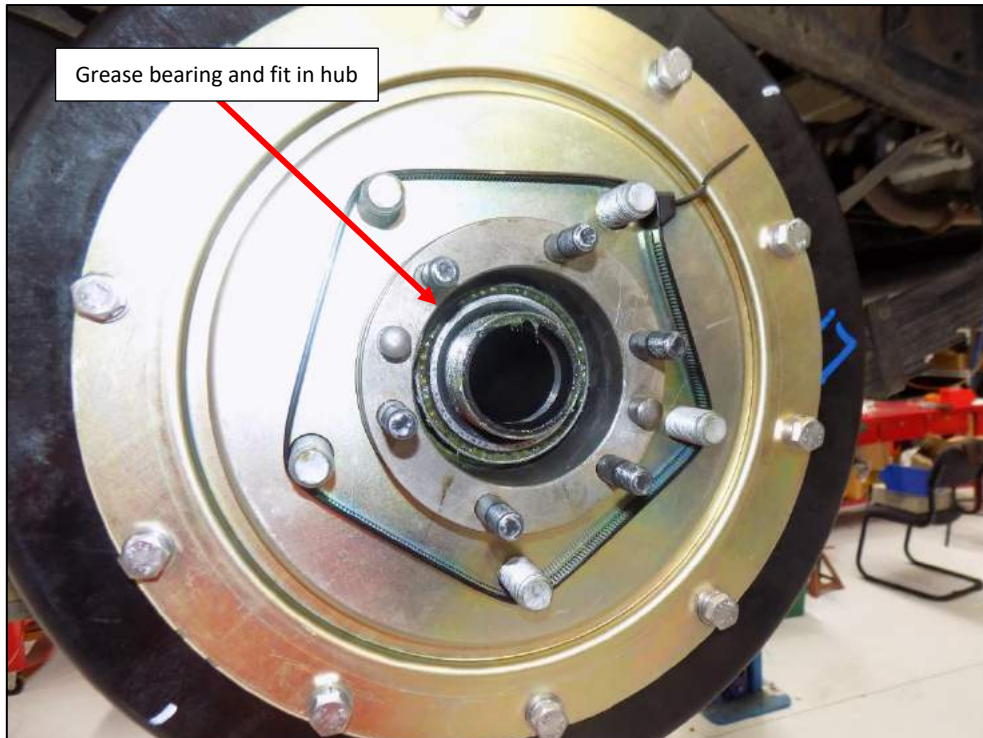

Figure 5
8. Grease the outer bearing and fit to the hub (Shown in figure 5)